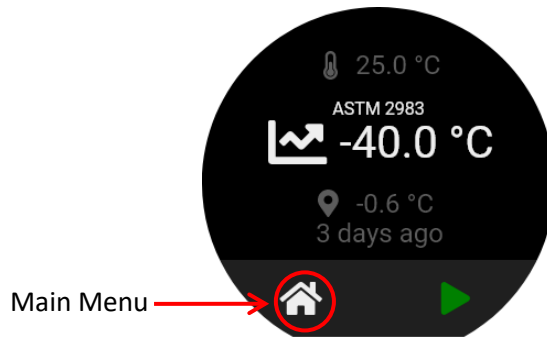

Figure 12: Home Screen of Base Unit
5. On the Base Unit, press the **Home** button to go to the main menu screen. See Figure 12.